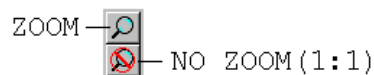

Figure 28 : ZOOM TOOLBAR
A first click on the *Zoom* button (Figure 28) or on *Zoom* on the *Tools* menu (Figure 24) changes the cursor in  and allows you to zoom in the bulkhead view by simple click on it.
A second click on the *Zoom* button (Figure 28) or on *Zoom* on the *Tools* menu (Figure 24) changes back the cursor in  and allows you to work on your zoomed bulkhead view.
- click on the *No Zoom (1:1)* button (Figure 28) to bring back the view to the initial size.